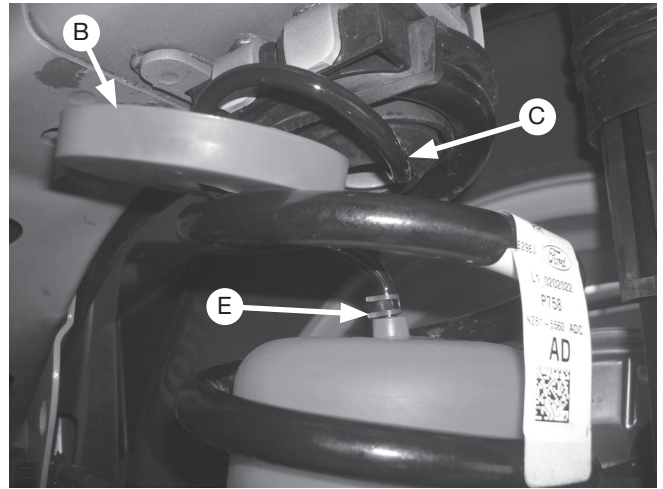

Fig. 4
4. Cut the air line into two pieces and using a pair of pliers, slide air line clamps (E) over each end of the air lines (C). Then route the air lines through the hole in the upper spring seats (Fig. 4), through the spacers (B) then over the barbed stem on top of the cylinders. Making sure the air lines completely cover the barbed stems and using the pliers, slide the air line clamps over the barbed stems.